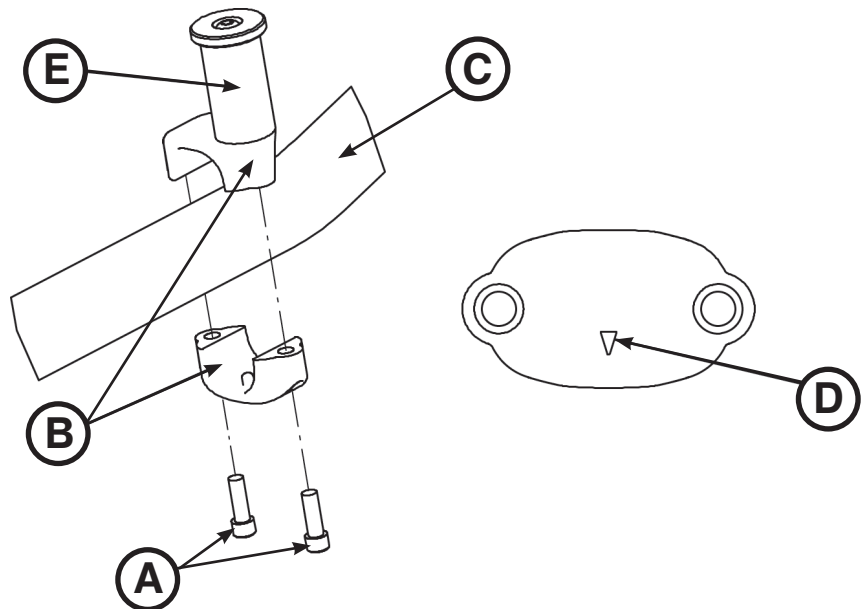

Figure 53: Cot Retaining Post
1. Using a 3/16" hex wrench, remove the two socket head cap screws (A) that hold the pin brackets (B) to the base frame (C) (Figure 53).
Note: If the arrow (D) on the bottom bracket of the retaining post (E) points toward the head end of the cot, the retaining post is set for an X-frame style cot. If the arrow points toward the foot end of the cot the post is set for an H-frame style cot (Figure 53).